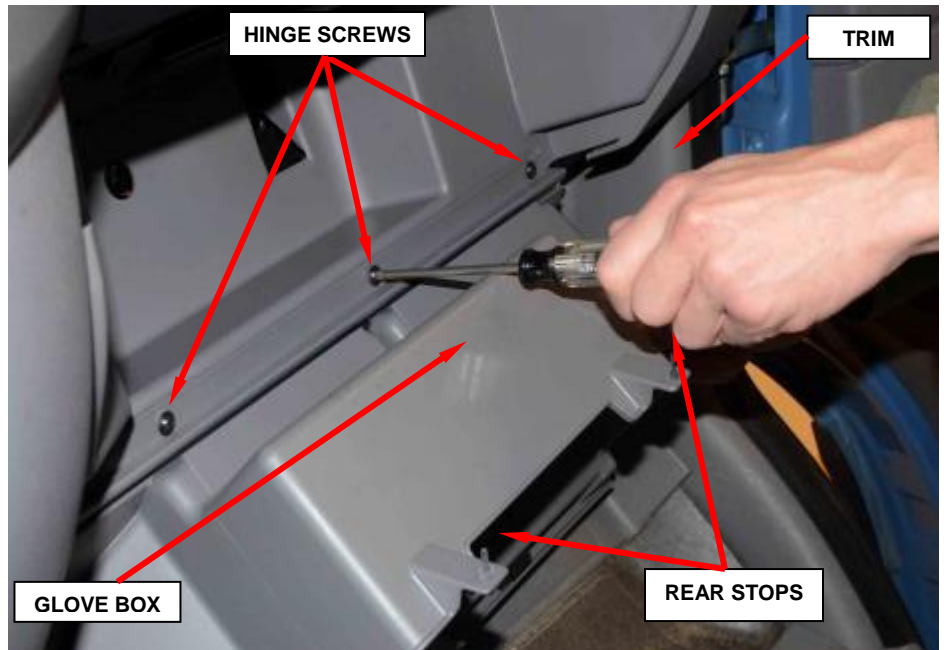

Figure 145 – Glove Box Hinge Screws
2. Open the glove box, push up on the two rear stops and fold the box down completely (Figure 145).
4. Remove and save the screw securing the trim below the right outboard air outlet bezel and remove the trim (Figure 145).